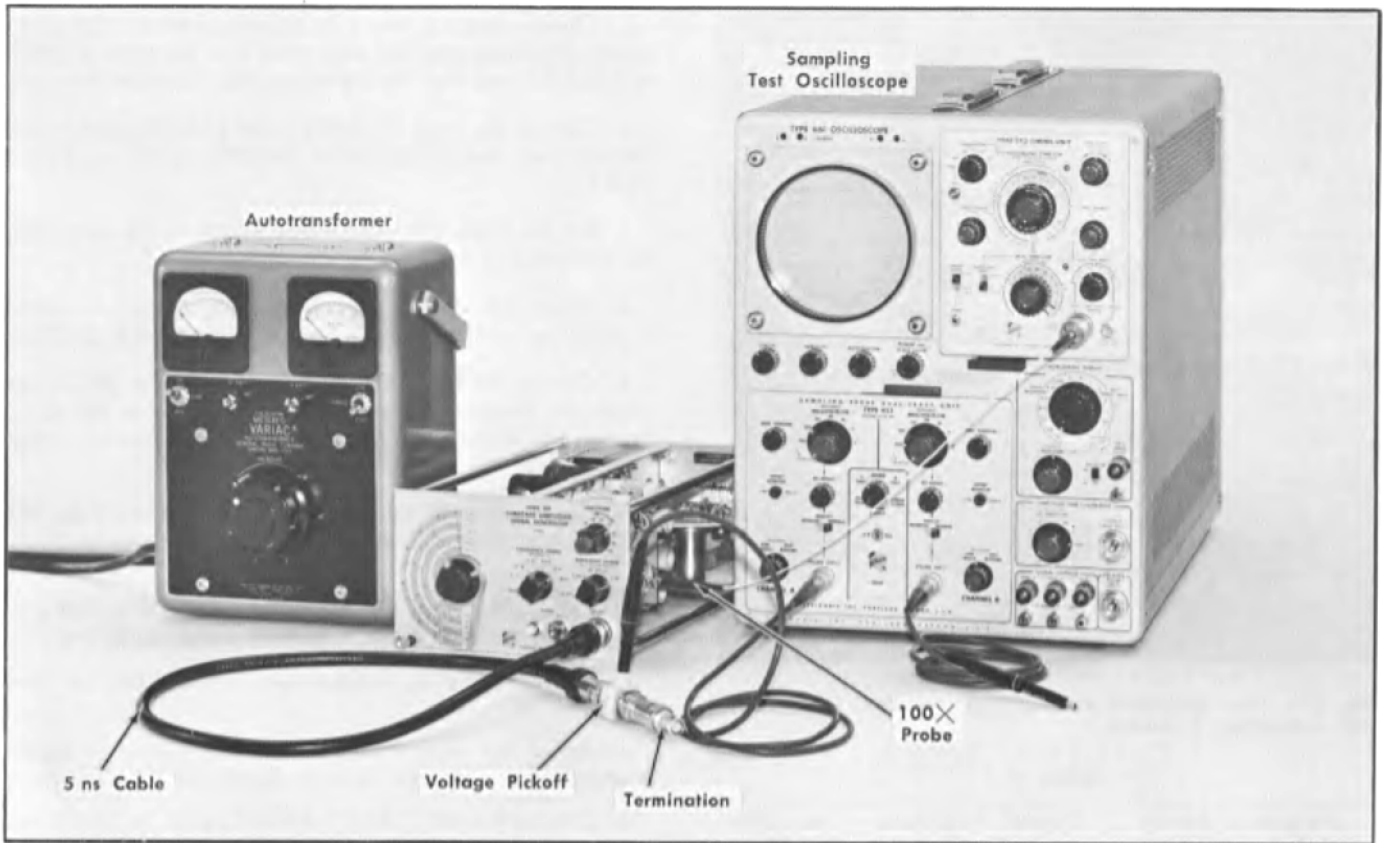

Fig. 6-15. Test equipment setup for step 12.
- a. Test equipment setup is shown in Fig. 6-15.